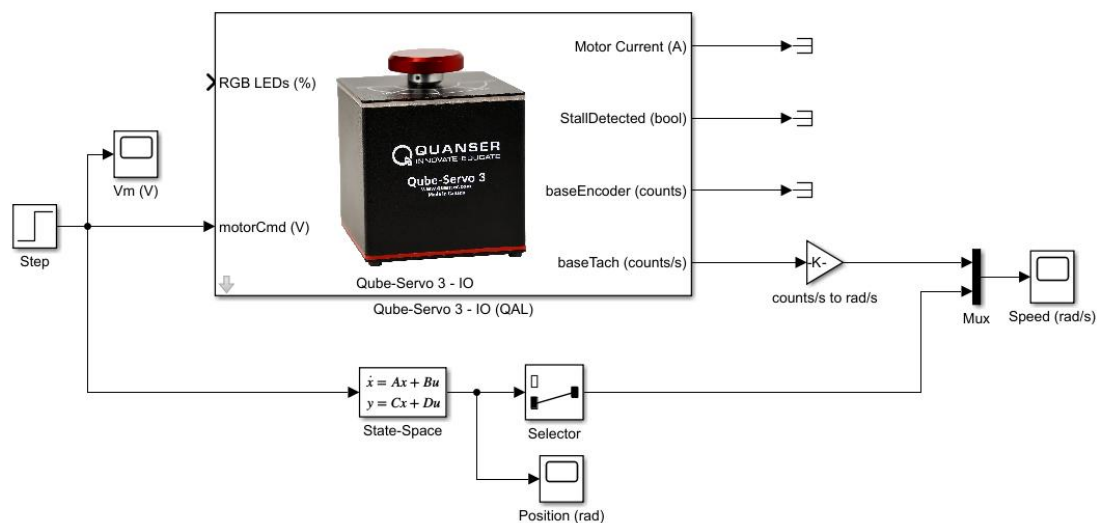

Figure 1: A 1V step input to a Qube-Servo 3 and its state space representation.
In this lab, the goal is to create a state space representation of the DC motor equations of motion. The calculated representation will then be compared to the physical response of the Qube-Servo 3. The Simulink model shown in Figure 1 applies a 5V step to the Qube-Servo 3 and the state space model of the servo. The measured and modeled speed responses are plotted in the same scope for comparison.
1. Open `qs3_ss_model.slx` as shown in Figure 1 and modify the tachometer gain. The model should apply a 5V step to the Qube-Servo 3 and its state space model. Start from the model in the Filtering Lab if the model was not provided.